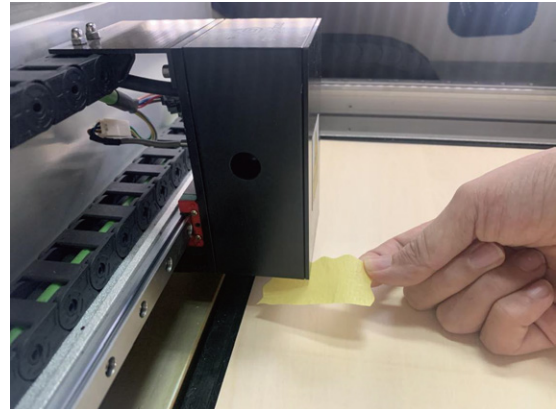

Figure 4
2) After checking the air pump and knob, power on the machine, turn on the machine switch, place a thin paper or string under the laser nozzle to test whether there is gas blowing, as shown in Figure 4, if there is gas blowing, there will be no fire.